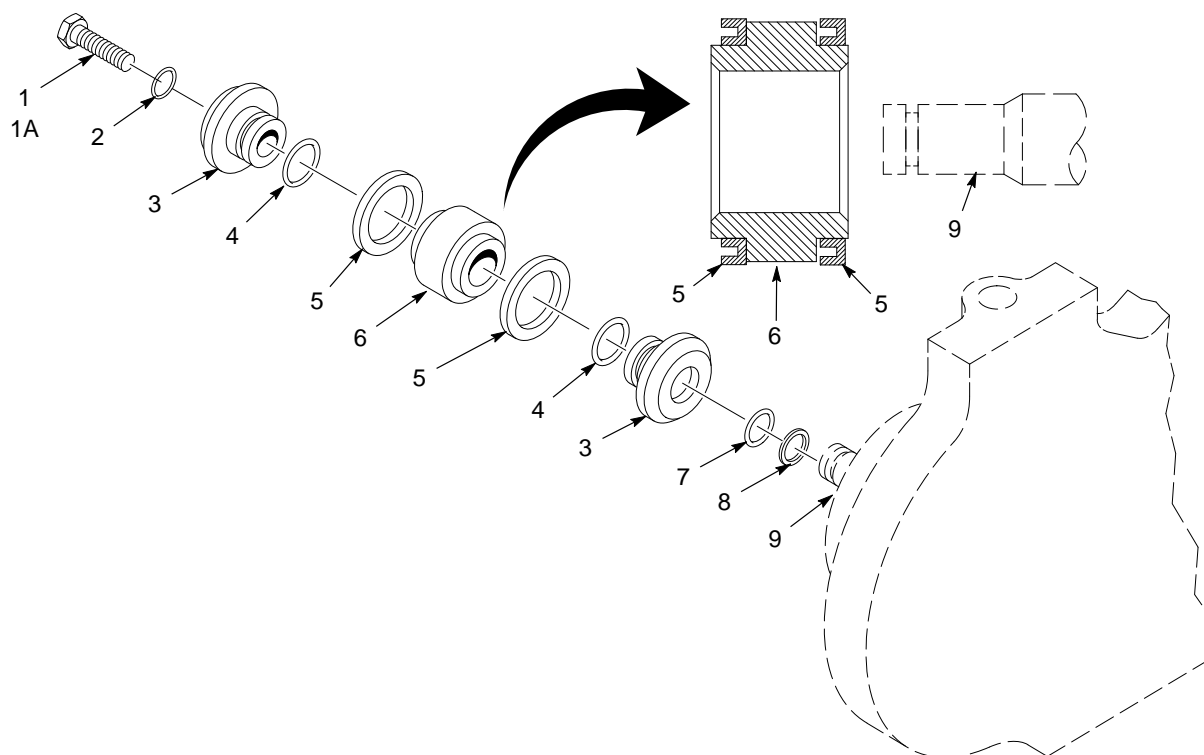

Figure 6-2 Hydraulic Packing Replacement
See Figure 6-2. The Hydraulic Packing Service Kit contains items 2, 4, 5, 7, and 8, plus the high-pressure cylinder O-rings.